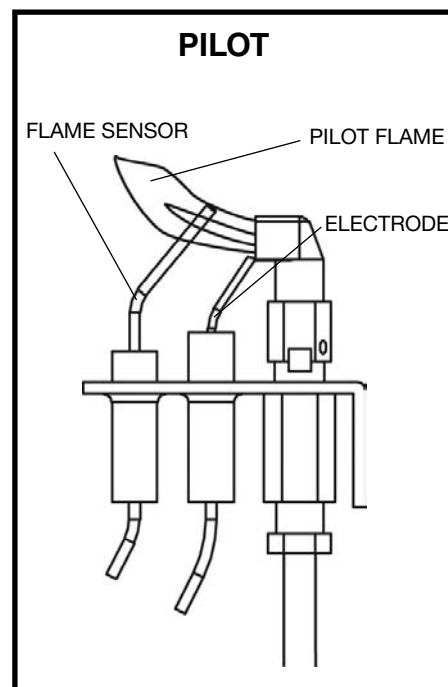

Figure 94: SIT pilot assembly.
- b) Check the pilot system for proper flame size and operation. Clean pilot free of soot, dust or any other deposits (Figure 94 and Figure 95). Have a qualified service person adjust the pilot flame.